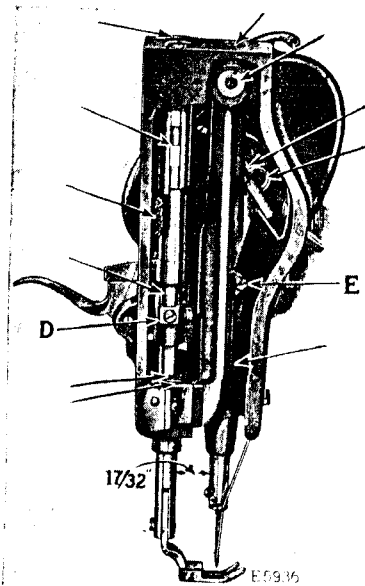

Fig. 13. End View of Machine, Showing Oiling Points
In case the needle bar is not correctly set, loosen the needle bar connecting stud pinch screw (E, Fig. 13) and place the needle bar in correct position as directed above, then retighten the screw (E).
The distance between the needle bar and presser bar, after turning the feed regulating spindle head so that there is no feed movement of the needle bar, should be $\frac{1}{4}$ inch, as shown in Fig. 13.